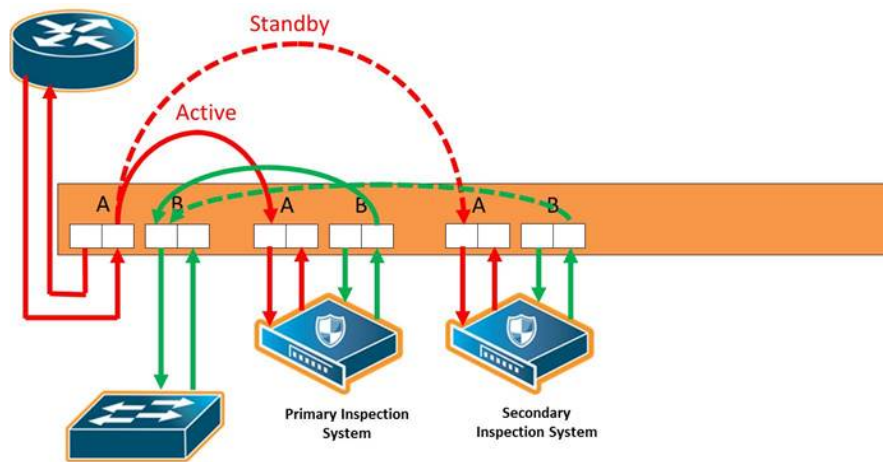

Figure 31 Inline Tool Group With Spare, Redundant 1+1 Scenario
- 1+1 redundancy—single inline tool with a spare inline tool. Refer to Figure 31 Inline Tool Group With Spare, Redundant 1+1 Scenario.
Refer to Figure 31 Inline Tool Group With Spare, Redundant 1+1 Scenario for an inline tool group with a single inline tool and a spare inline tool configured. This is also referred to as 1+1 redundancy or N+1 redundancy where N equals 1. In Figure 31 Inline Tool Group With Spare, Redundant 1+1 Scenario, traffic is only shown from A-to-B.